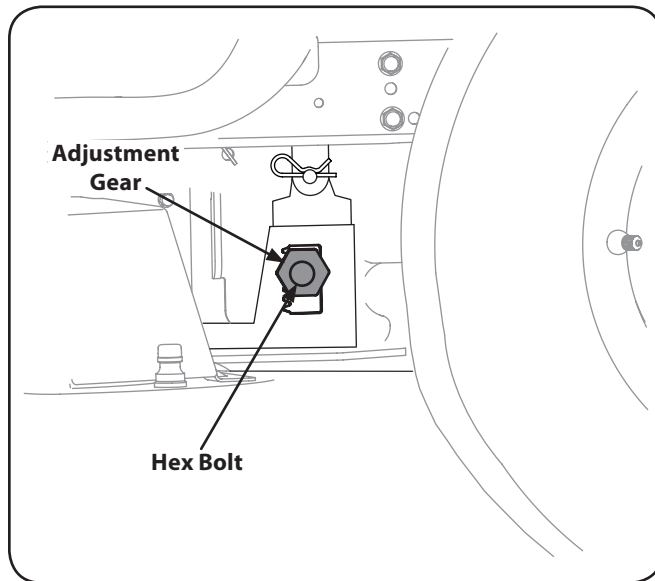

Figure 6-6
3. Loosen, but do NOT remove, the hex bolt on the front left deck hanger link. See Fig. 6-6.
4. Using a wrench, raise or lower the left side of the deck by turning the adjustment gears. See Fig. 6-6.
4. Loosen, but do NOT remove, the hex bolt on the left and right rear deck hanger brackets. See Fig. 6-6.
5. Using a wrench, raise or lower the left and right side of the deck by turning the adjustment gears. See Fig. 6-6.